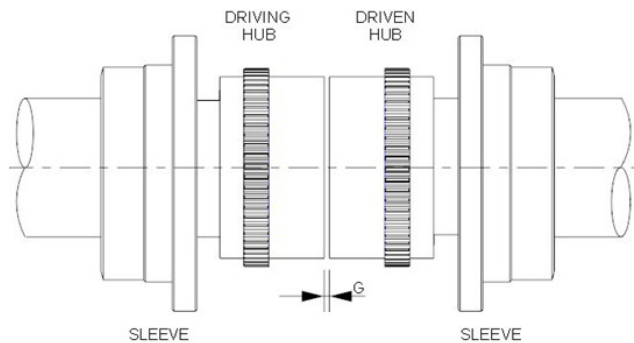

Fig.3 Hub mounting
- Remove coupling bolts (1) and separate hubs from transmission unit (fig.3).
- Slide the sleeve having internal teeth with rubber o-ring on shafts.(Fig 3)
- Mount the hubs having external teeth on their respective shafts flushed with the faces of hubs as shown in Fig. 3.
- Disengaged sleeve by removing coupling bolts (1) from sleeve.
- Ensure hubs have been mounted as shown in fig.3, to maintain correct Gap 'G'.